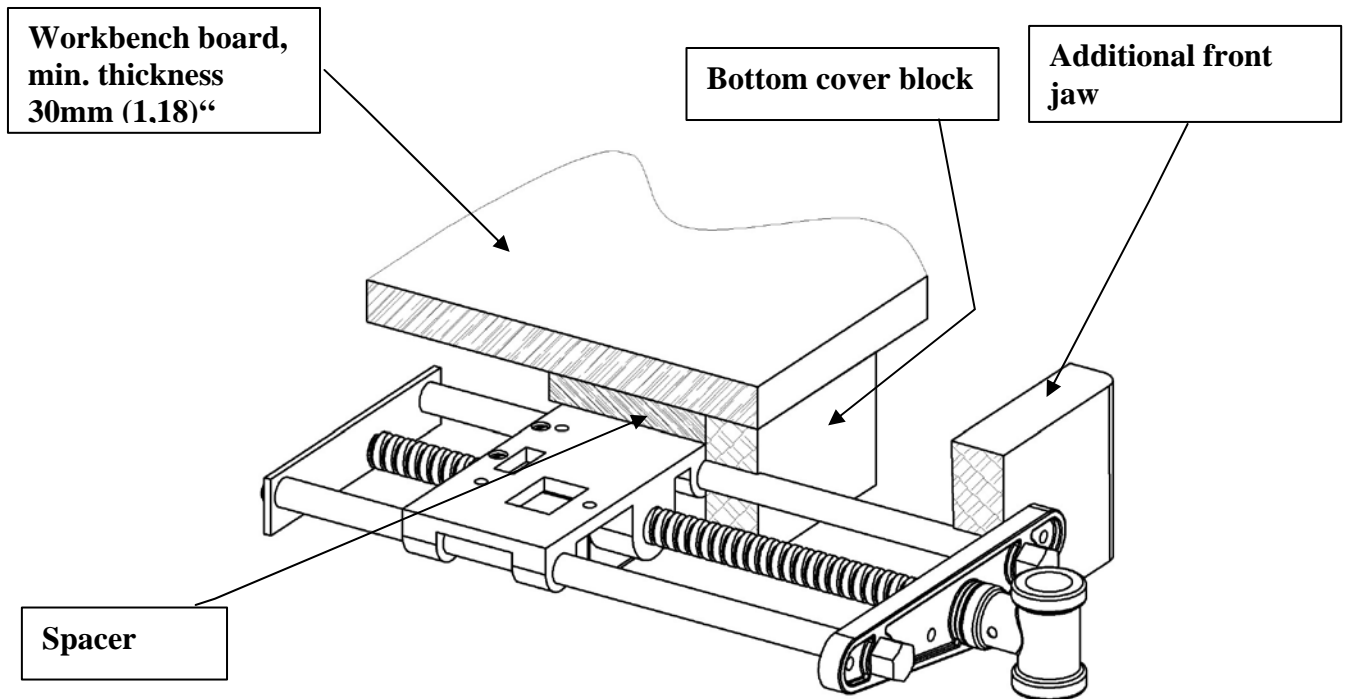

Fig.2c
**Installation on workbench without additional rear jaw and collar – this configuration is neither usual nor recommended - Fig. 2c**